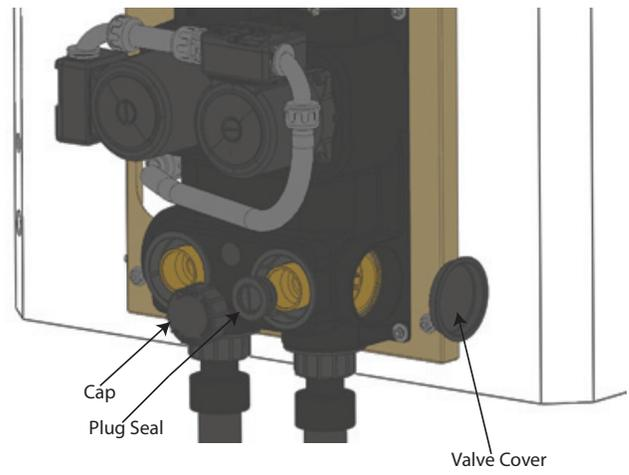

Fig. 17 — Valve Cover
15. Ensure plastic valve face covers and flush port plug seals/caps are in place (Fig. 17).